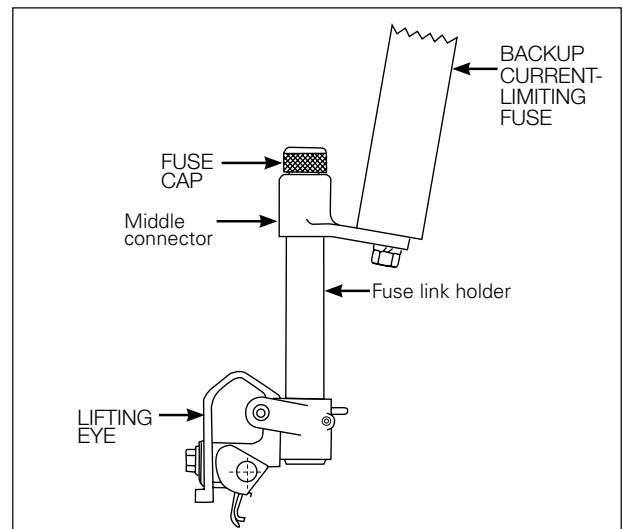

Figure 2. Tandem ELF fuse link holder assembly
1. **Remove the fuse cap** from the middle connector of the fuse link holder assembly. See Figure 2.